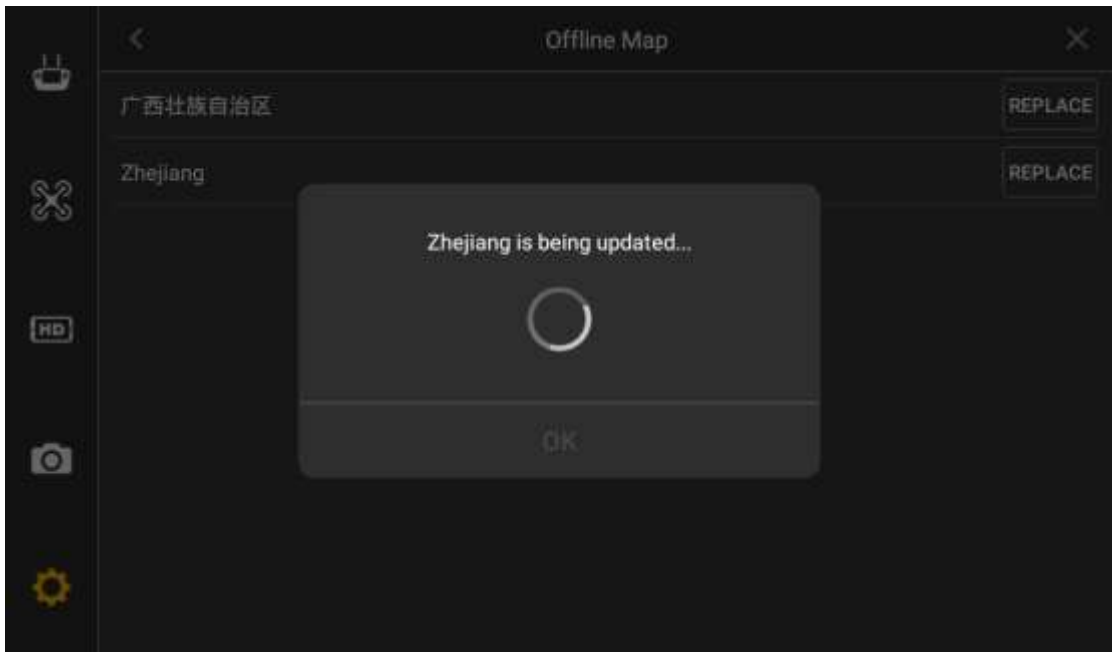

Figure 6-5
Step 3 Select the city which needs to be updated, click "Replace" button to update the city map immediately, as shown in Figure 6-5. After the update is completed, the interface displays "Beijing City map is imported successfully. Please reboot APP".